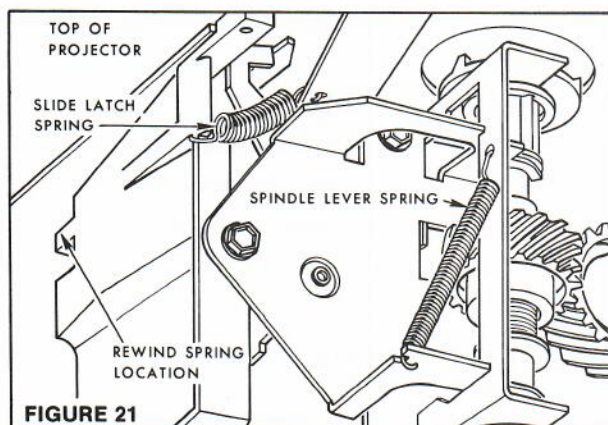

FIGURE 21
3. Remove the SLIDE LATCH SPRING from the casting, Figure 21.